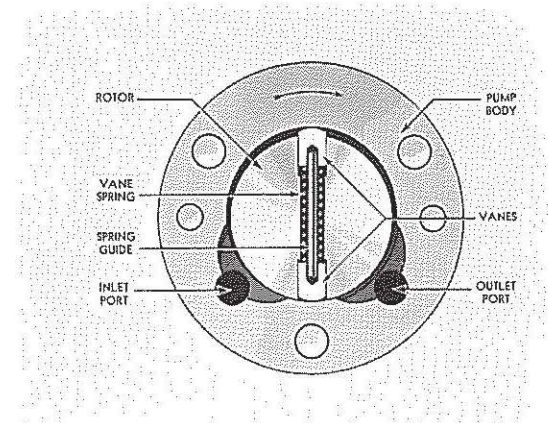

FIG. 8
5. Assemble spring guide, spring, and vane in rotor, compress vanes flush with outside diameter of rotor and place rotor on vane assembly in pump body. Fig. 8.